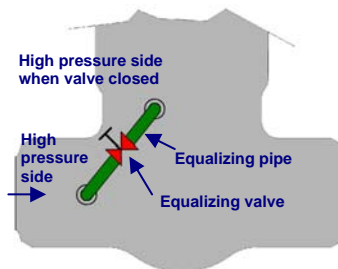

Fig. 9
- An equalizing-pipe and equalizing-valve (Fig. 9), connecting the body cavity to the high pressure side of the valves, the valve must be open to provide relief.